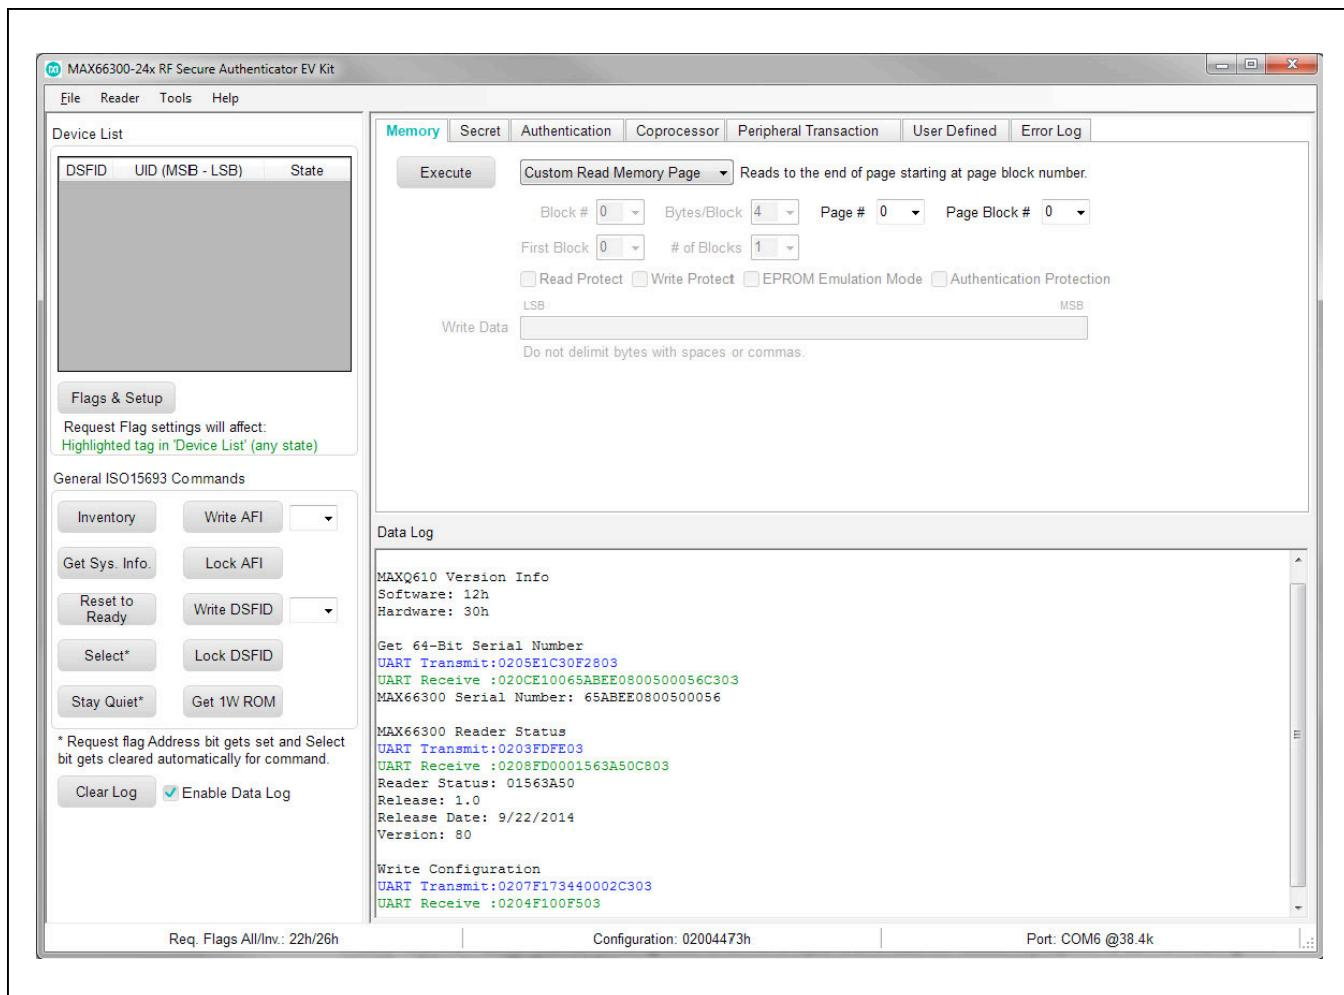

Figure 4. MAX66300-24x EV Kit GUI
- 8) The evaluation program GUI appears as shown in Figure 4.
After completing the **Quick Start** section with the GUI open as shown in Figure 4, click on rectangular red objects and confirm the red-circled objects for the following steps: